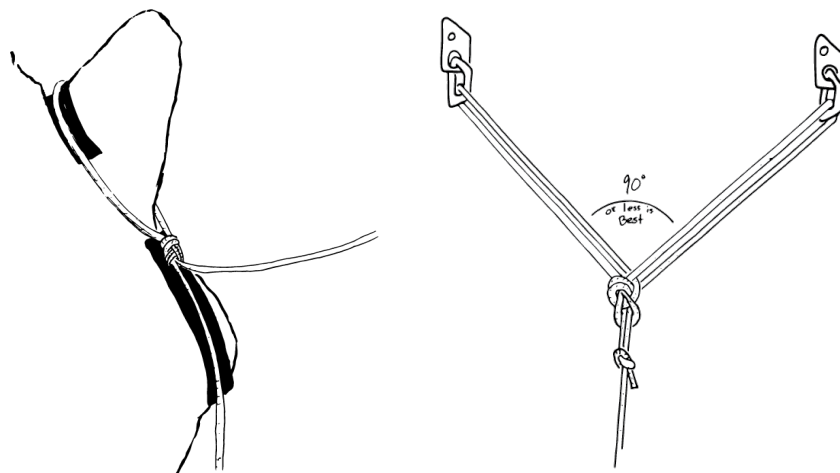
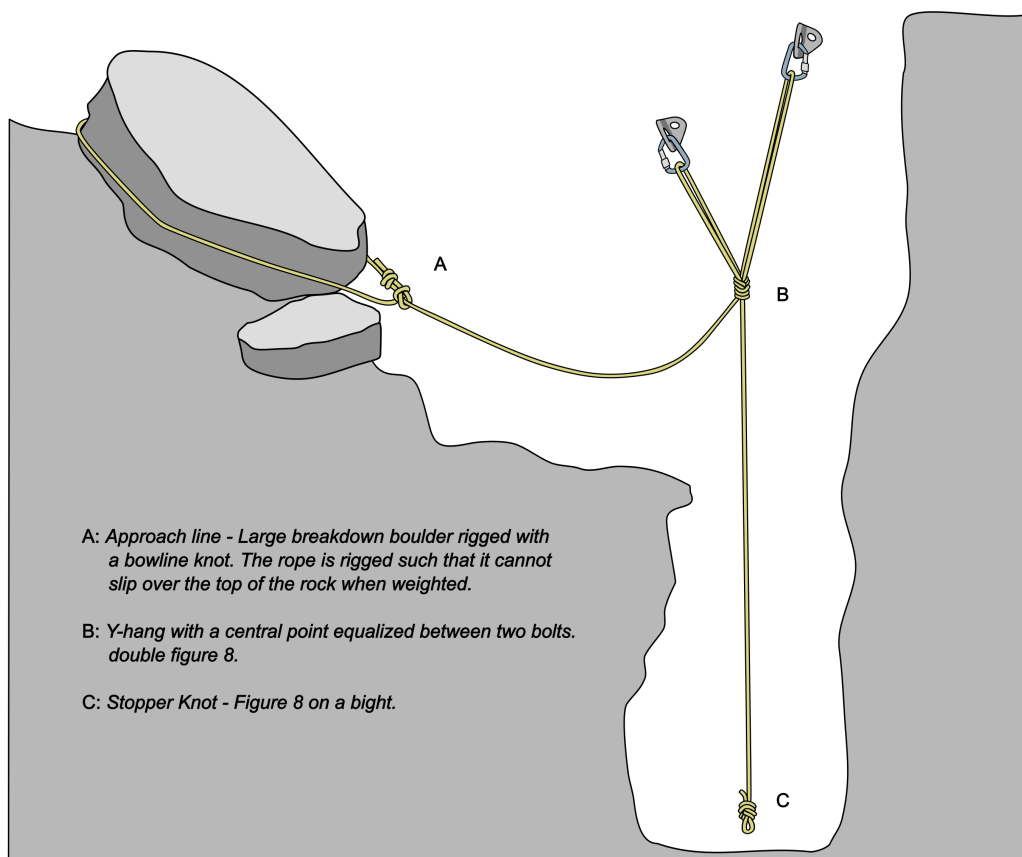

Figure 30: Rigging with a fixed loop to a horn (left). Rigging on bolts with a bowline on a bight (right).
Figure 32: Rigging an underground pitch
- Fixed loops are often used to rig stalagmites or breakdown blocks, but are fine to use on trees. A retraced Figure-8 works fine; a bowline is quicker and easier. You may see a “fixed loop” with an additional wrap or even a clove hitch in the major loop of the bowline; these techniques help locate the rope at a certain height on the anchor. See Figure 30 and Figure 32 for examples.
- Bolts are usually set in pairs. Bolts are usually rigged using a double Figure-8 on a bight (Figure 32), a bowline on a bight (Figure 30), or a Figure-8 and an alpine butterfly. This third configuration is useful for bolts that are far apart as it uses less rope.